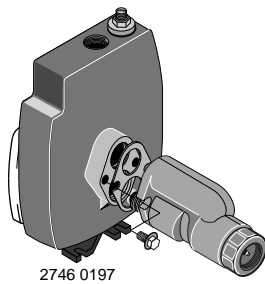

Figure 6: Install Ejector
Step 1. Install ejector kit (models with "J" suffix include complete ejector assembly; for other models, purchase ejector kit FP4855, sold separately). Follow the instructions provided with the kit. Align the venturi with the lower hole on the front of the pump (see Figure 6).